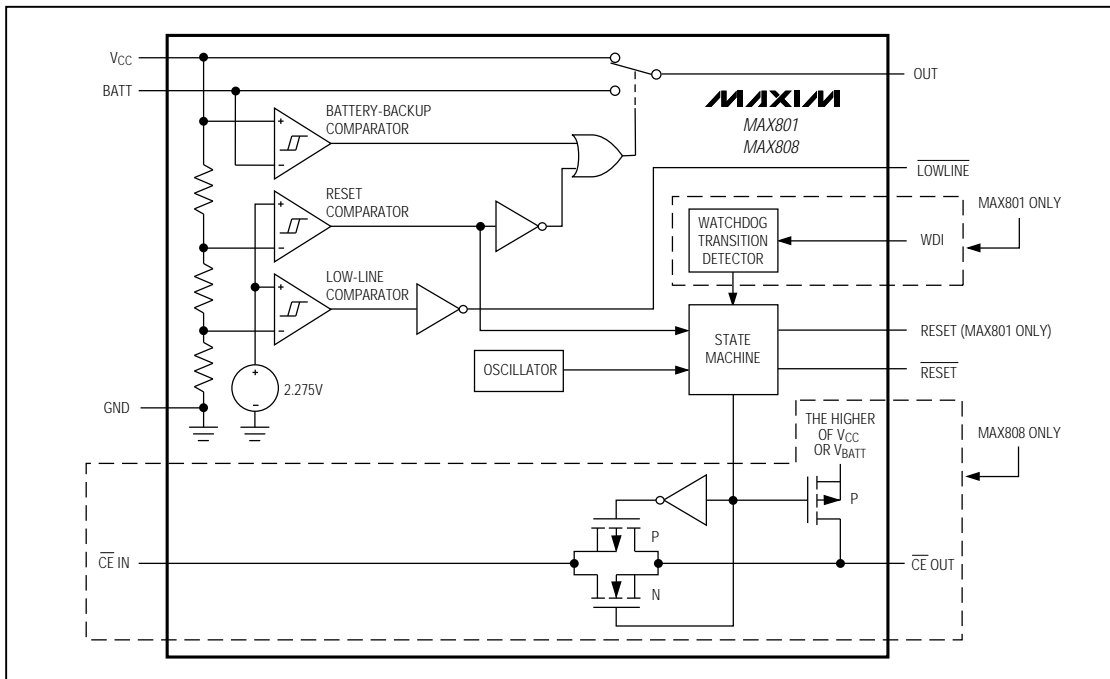

Figure 1. Functional Diagram
The MAX801/MAX808 microprocessor (μP) supervisory circuits provide power-supply monitoring and backup-battery switchover in μP systems. The MAX801 also provides program-execution watchdog functions (Figure 1). Use of BiCMOS technology results in an improved, 1.5% reset-threshold precision while keeping supply currents typically at $68\mu\text{A}$ ($48\mu\text{A}$ for the MAX808). The MAX801/MAX808 are intended for battery-powered applications that require high reset-threshold precision, allowing a wide power-supply operating range while preventing the system from operating below its specified voltage range.
The MAX808 provides internal gating of chip-enable (CE) signals to prevent erroneous data from corrupting CMOS RAM in the event of a power failure. During normal operation, the CE gate is enabled and passes all CE transitions. When reset is asserted, this path becomes disabled, preventing erroneous data from corrupting the CMOS RAM. The MAX808 uses a series transmission gate from the chip-enable input ($\overline{\text{CE IN}}$) to the chip-enable output ($\overline{\text{CE OUT}}$) (Figure 1). The 8ns max chip-enable propagation from $\overline{\text{CE IN}}$ to $\overline{\text{CE OUT}}$ enables the MAX808 to be used with most μ Ps.